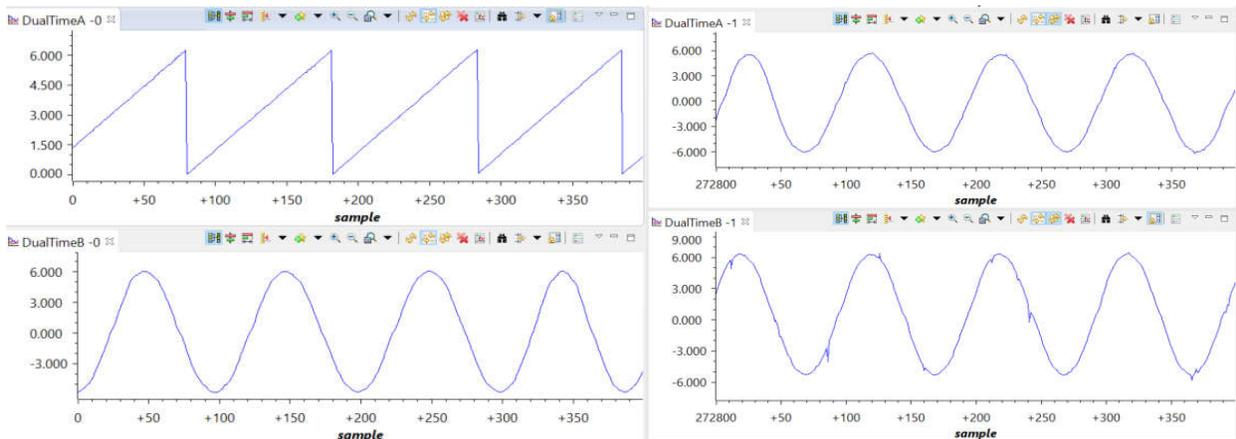

Figure 33: datalog graphs for rotor angle and three phase current ADC values
- c. The inputs necessary to connect the sampled phase currents to the datalog are shown below, and the rotor angle and sampled currents are shown in **Figure 33**.